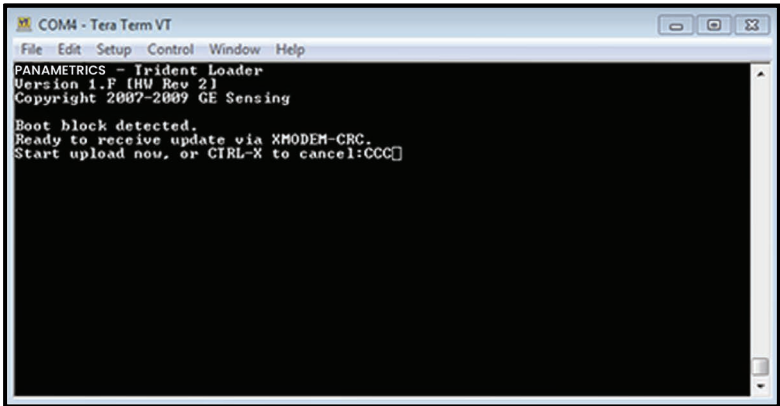

Figure 78: Tera Term indicates meter ready to receive update
5. In the *Tera Term* terminal window (see *Figure 78* on page 92), select *file*, *transfer*, *XMODEM*, and *send* in the subsequent drop-down menus.